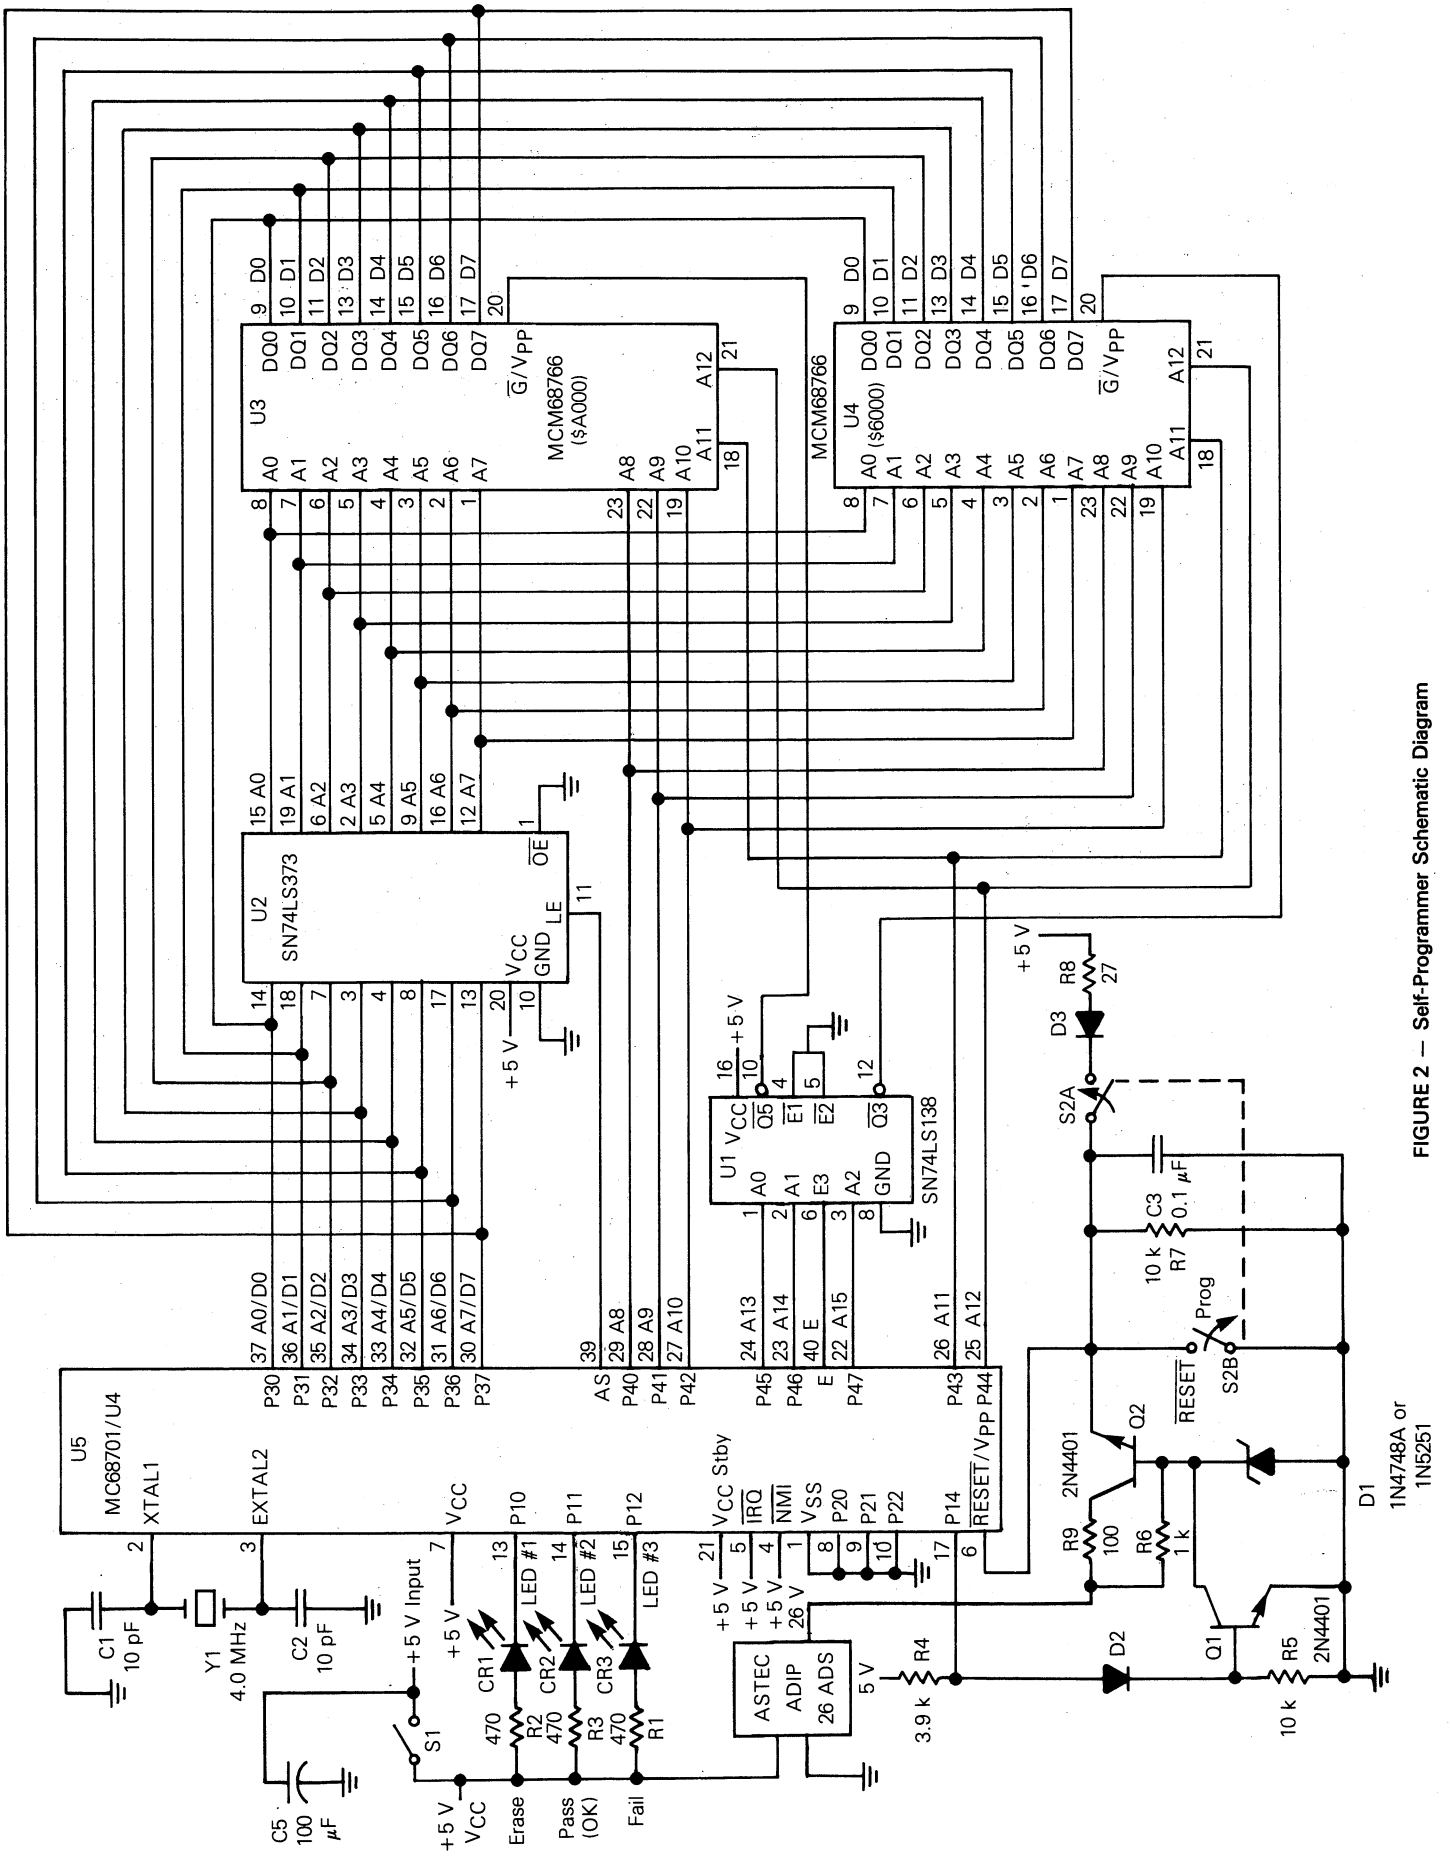

FIGURE 2 — Self-Programmer Schematic Diagram
The MC68701/U4 self-programmer (see Figure 2) is designed for simplicity, low cost, and ease of use. The hardware and associated software provide for: (1) determination of which device type is being programmed, (2) verification that the inserted MCU is initially fully erased, (3) the programming of the MCU, and (4) verification of the programmed code.
The self-programmer consists of two MCM68766 EPROMs, a SN74LS373 transparent latch, a SN74LS138 1-of-8 decoder, a MCU socket, and associated parts as shown in Figure 2.